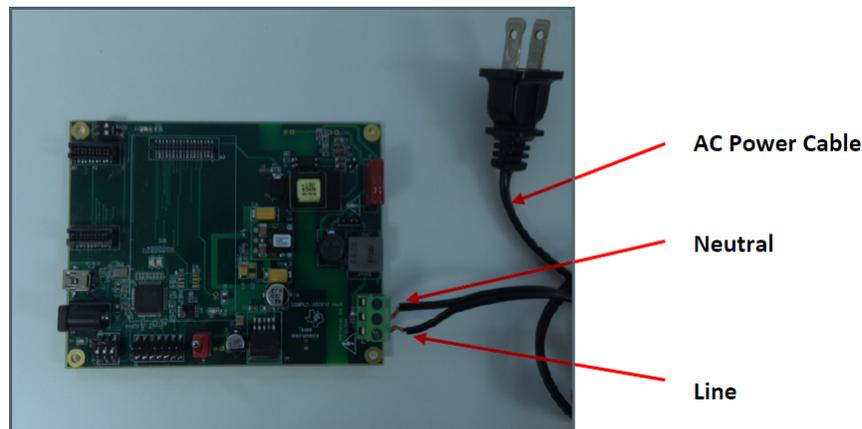
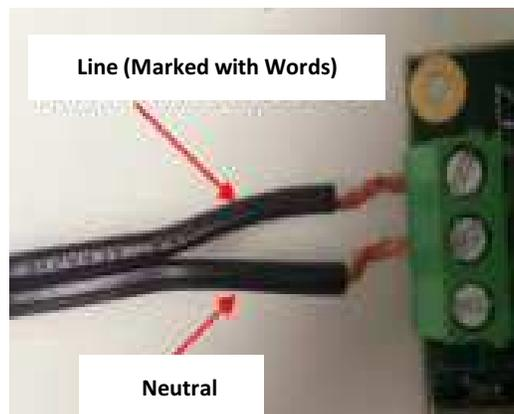

Figure 2. AC Power Cable Connections
Figure 3. Neutral and Line Connections
2. Connect the AC power cable to Line and Neutral of connector P1 as shown in Figure 2 and Figure 3 (ensure Line and Neutral connections are not shorted).
NOTE: Depending on the manufacturer, the power cord can have markings on the cord for Line (See Figure 3).